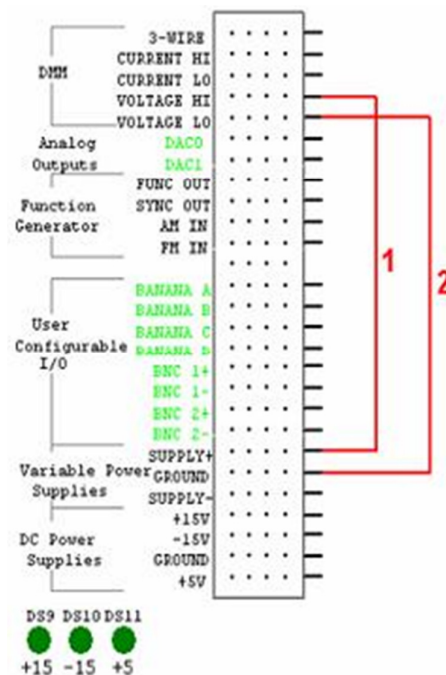

Figure 1
Construct the circuit as shown in **Figure 1** by performing the following steps:
- Complete the table below figure 1.